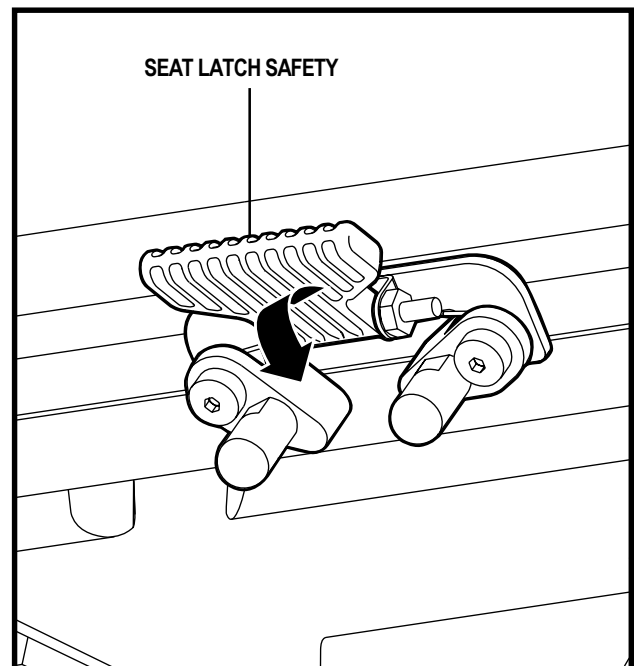

Figure 14. Seat Latch Safety
4. Flip the seat latch safety down. See figure 14.